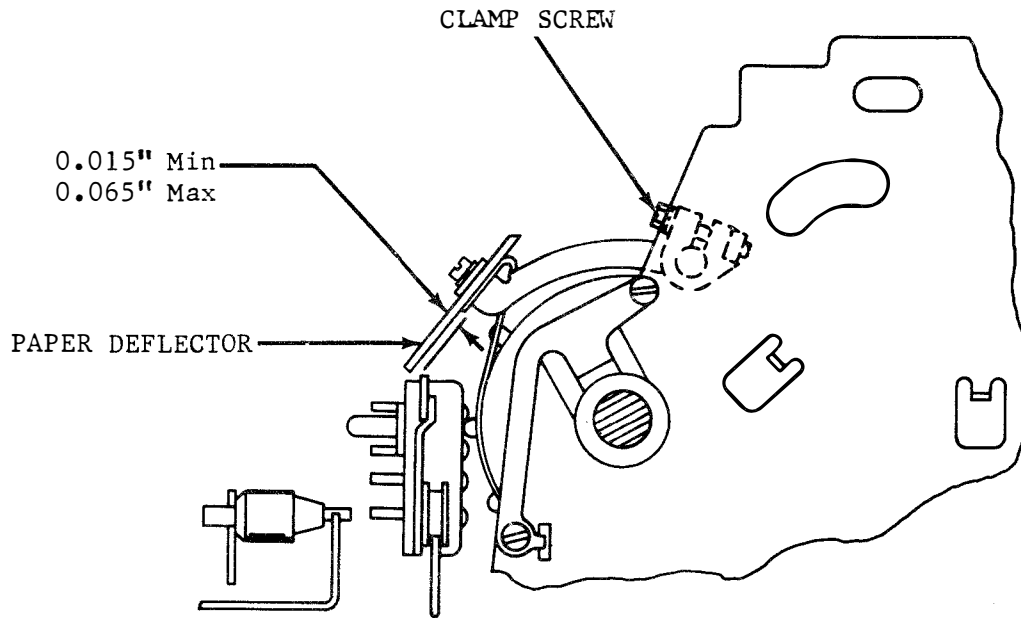

Figure 2
3.01 PAPER DEFLECTOR (Figure 2)